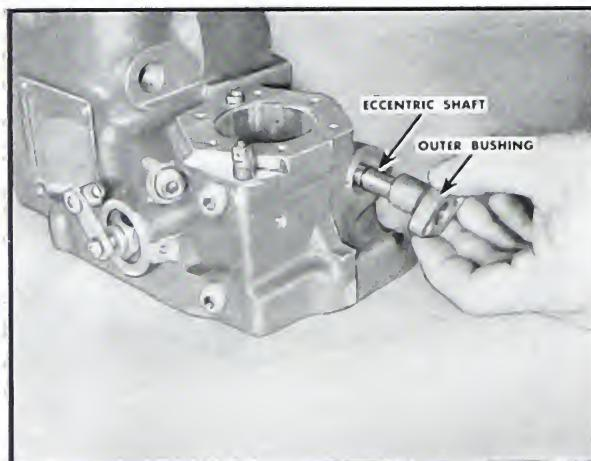

Fig. 5-231. Removing eccentric shaft
3. Unscrew the two socket head screws and remove the outer hand control eccentric bushing. Remove eccentric shaft. Fig. 5-231.
9. Assemble outer eccentric bushing to housing and secure with two No. 8—32 $\times \frac{1}{2}"$ socket head capscrews and lockwashers. Fig. 5-231.
10. Assemble hand throttle lever to eccentric shaft. (See Page 5-106.) Secure socket head clamping screw. Be sure lever does not bind against outer eccentric bushing. Fig. 5-231.